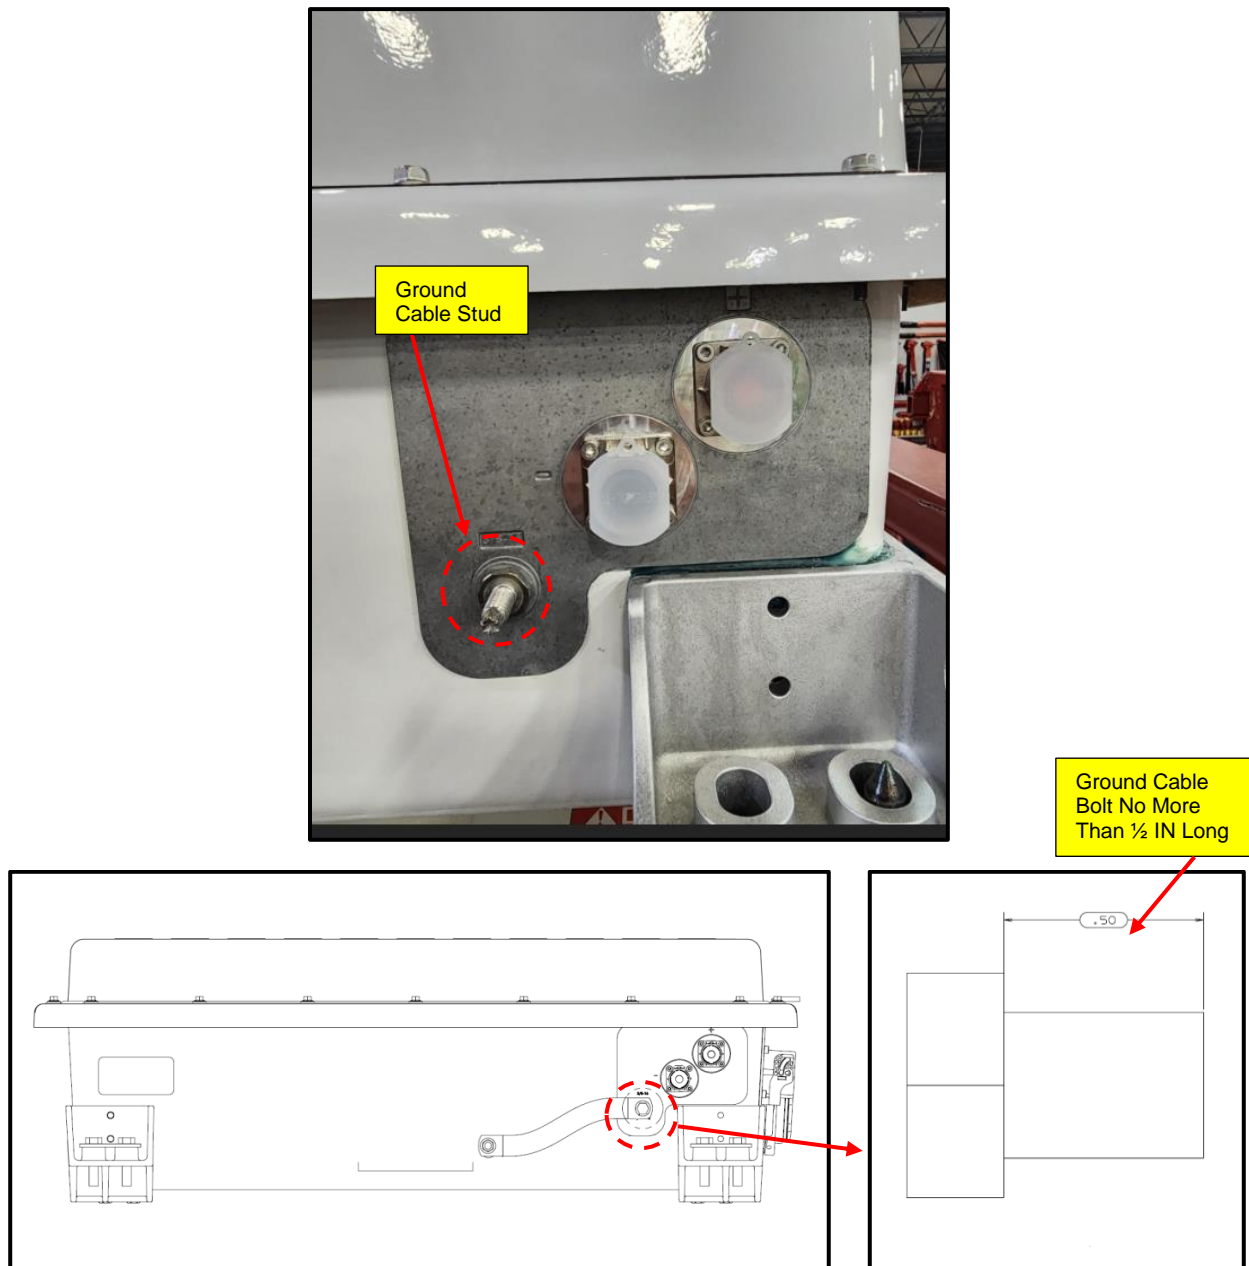

Figure 26: Rear ESS Assembly Ground Stud Inspection Location Reference.
73. Inspect each ESS unit removed and to be installed for the correct ground cable securement. Ref ESS1 and ESS2. See Figure 26.
- A. If a ground stud as shown below is installed no further action is required. See Figure 26.
- B. If a bolt is installed as shown below check the length of the bolt. If the bolt is $\frac{1}{2}$ IN long no further action is required. See Figure 26.
- C. If a bolt is installed and the length is greater than $\frac{1}{2}$ " notify the RPSM and New Flyer Service Engineering immediately. See Figure 26.
78. Inspect each ESS unit removed and to be installed for the correct ground cable securement. Ref ESS1 and ESS2. See Figure 26.